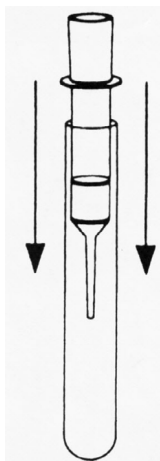

Fig. 2: Mounting the sealing ring to the column.
- 5 Mount the sealing ring to the column (Fig. 2) to fix the column in the collection tube.